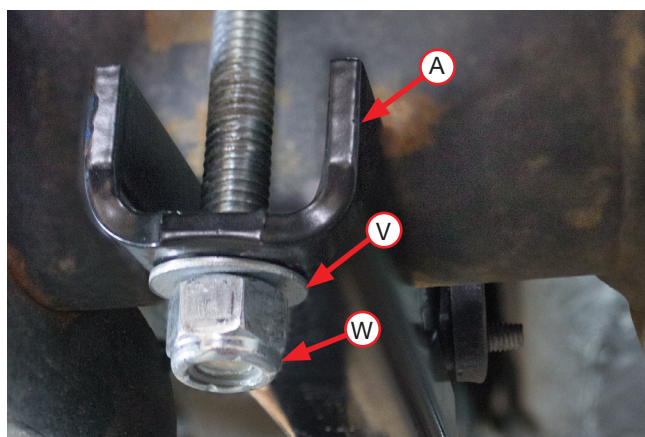

Fig. 19
*If there is a sway bar, insert the carriage bolts through the Clamp Bar (A) while setting the assemblies into position over the axle (see Fig. 19).*
5. If not completed, set the lower clamp bars (A) over the carriage bolts located under the axle (Fig. 19). Attach with the 3/8" flat washers (V) and 3/8" nylon lock nuts (W). Evenly torque the lower clamp bar hardware to 16 lb.-ft. (22Nm). Finish tightening the U-bolt hardware previously snugged by torquing to 10 lb.-ft. (14Nm).